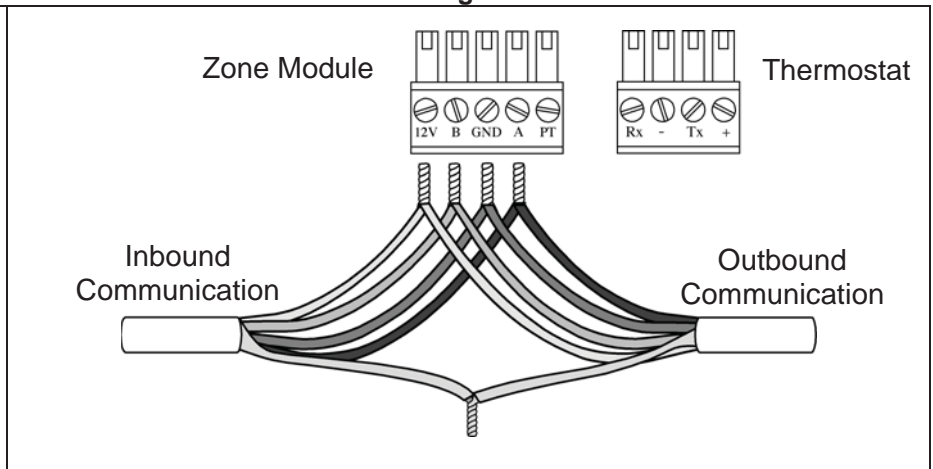

Fig. 5
- 3) **Subordinate Intermediate Module's Connection** – At the Zone Modules, the shields of inbound and outbound communication cables will be connected together. Do not connect the shield to the Zone Module Connector (Fig. 5).